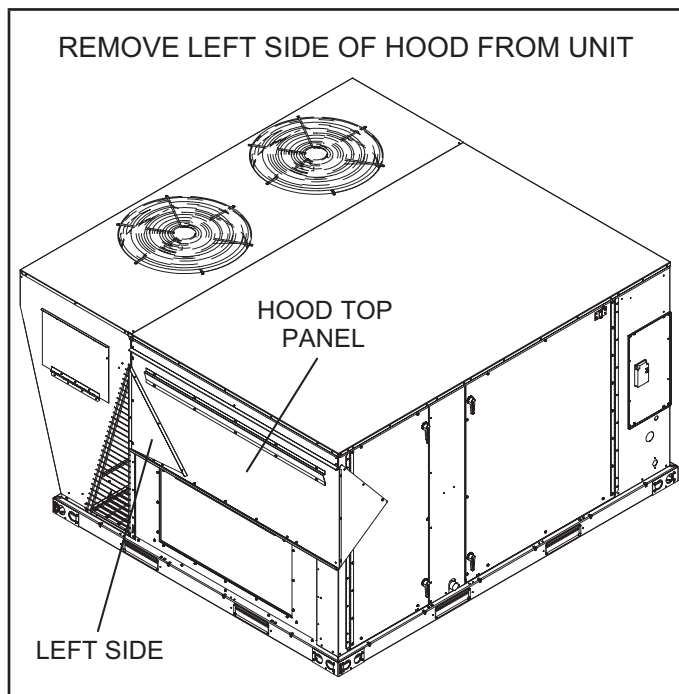

FIGURE 10
- 1 - Remove left side from hood top panel. See FIGURE 10.